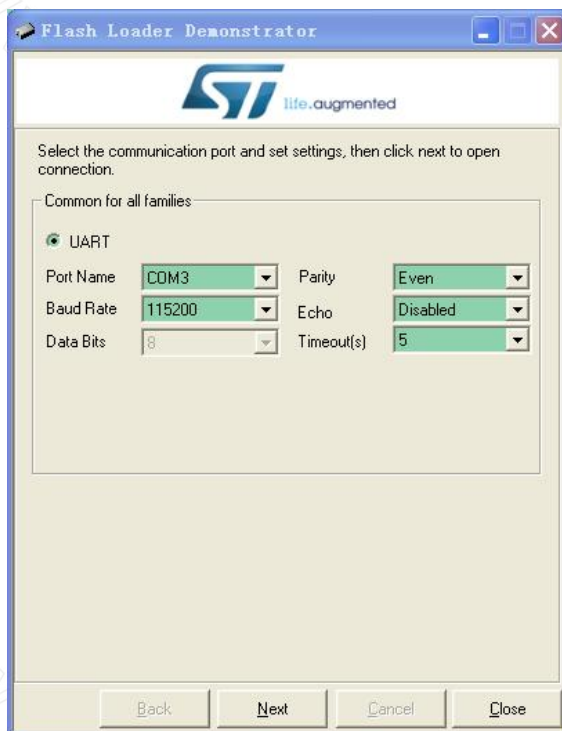

Fig. 5
- 3) Launch Flash Bootloader Demonstrator and proceed to the state as shown in Fig. 5. Here you need to setup some parameters for the serial connection. Please set the parameters to what illustrated in Fig. 5. For Port Name you need to choose the one corresponding to DSO138mini.